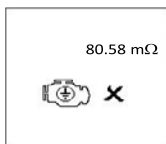

Fig.67
8. If the measured resistance reading has gone beyond the limits, then it will display the screen as follows (Fig. 67).